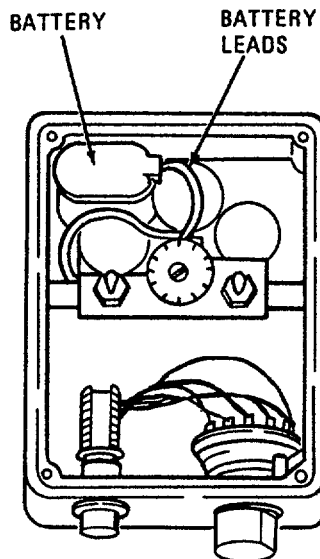

FIGURE 3-14. TOTAL DISSOLVED SOLIDS (TDS) METER BATTERY REPLACEMENT
a. Calibration. Each time before using TDS meter, perform a calibration check in accordance with paragraph 2-15c(4). Whenever switching to or from seawater sources, meter must be recalibrated in accordance with paragraph 2-15c(2) or paragraph 2-15c(3).
b. Battery Replacement (figure 3-14):
- (1) Remove bottom plate.
- (2) Disconnect leads from battery.
- (3) Install new battery and connect leads.
- (4) Install bottom plate.
- (5) Depress indicator button and adjust wheel until the dial reading is equal to the value stamped on the bottom plate. If using a seawater source, refer to paragraph 2-15c.
- (6) If reading cannot be adjusted after replacing battery, replace the TDS meter.